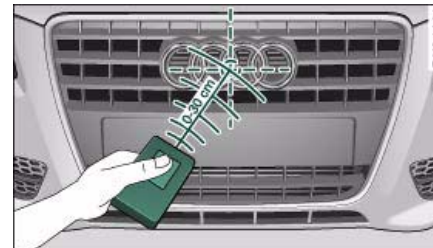

Fig. 198 Radiator grille ►
6. Hold the **original hand-held transmitter** at or near the centre of your car's radiator grille ⇒ *page 179*, fig. 198.
- Hold the **original hand-held transmitter** for the garage door opener or other device directly in front of the radiator grille of your vehicle (at or near the centre) ⇒ *page 179*, fig. 198. The exact distance depends on the system that you want to program.